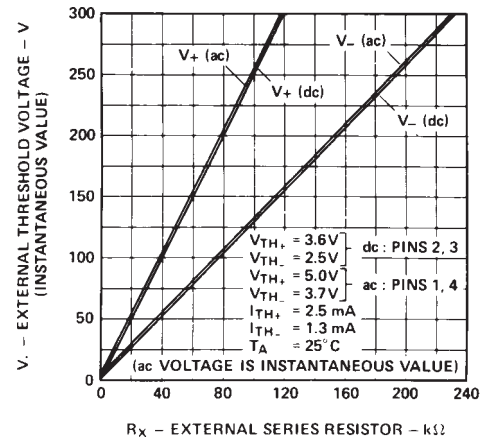
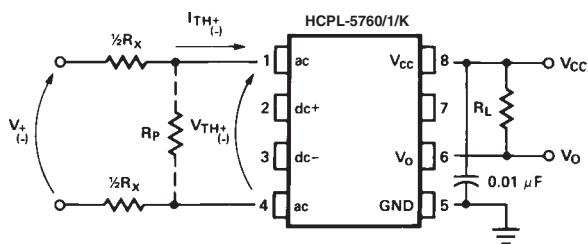

Figure 10. Typical External Threshold Characteristic, $V_{\pm}$ vs. R_x .
Figure 11. External Threshold Voltage Level Selection.
The HCPL-5760, HCPL-5761, HCPL-576K or 5962-89477 optocoupler has internal temperature compensated, predictable voltage and current threshold points which allow selection of an external resistor, R_x , to determine larger external threshold voltage levels. For a desired external threshold voltage, $V_{\pm}$, a corresponding typical value of R_x can be obtained from Figure 10. Specific calculation of R_x can be obtained from Equation (1) of Figure 11. Specification of both V_+ and V_- voltage threshold levels simultaneously can be obtained by the use of R_x and R_p as shown in Figure 11 and determined by Equations (2) and (3).